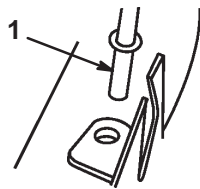

Figure 37
5. Insert the chute support rod through hole in the right side of the deck (Fig. 37).